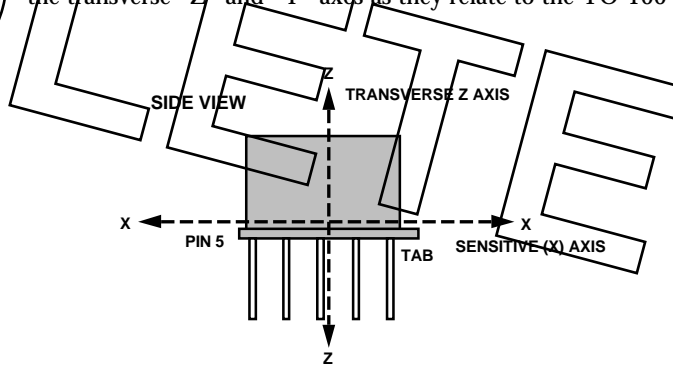

Figure 2a. Sensitive X and Transverse Z Axis
**Sensitive Axis (X):** The most sensitive axis of the accelerometer sensor. Defined by a line drawn between the package tab and Pin 5 in the plane of the pin circle. See Figures 2a and 2b.
The ADXL05 is a sensor designed to measure accelerations that result from an applied force. The ADXL05 responds to the component of acceleration on its sensitive X axis. Figures 2a and 2b show the relationship between the sensitive "X" axis and the transverse "Z" and "Y" axes as they relate to the TO-100